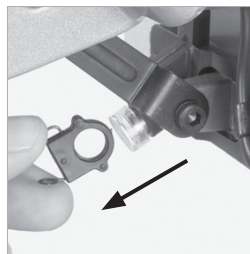

Fig. 38
- Remove the lower guard operating arm retaining clip. (**Fig. 38**) Release the guard operating arm from its pivot.